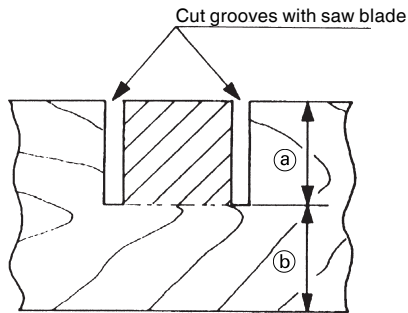

Fig. 46
Grooves in the workpiece can be cut as indicated in Fig. 46 by adjusting the 8mm depth adjustment bolt.
- (1) Loosen the 8mm wing nut and turn the 8mm depth adjustment bolt by hand.
- (2) Adjust to the desired cutting depth by setting the distance between the saw blade and the surface of the base (see ⑥ in Fig. 46).
- (3) The 8mm wing nut must be properly tightened after the adjustment has been completed.